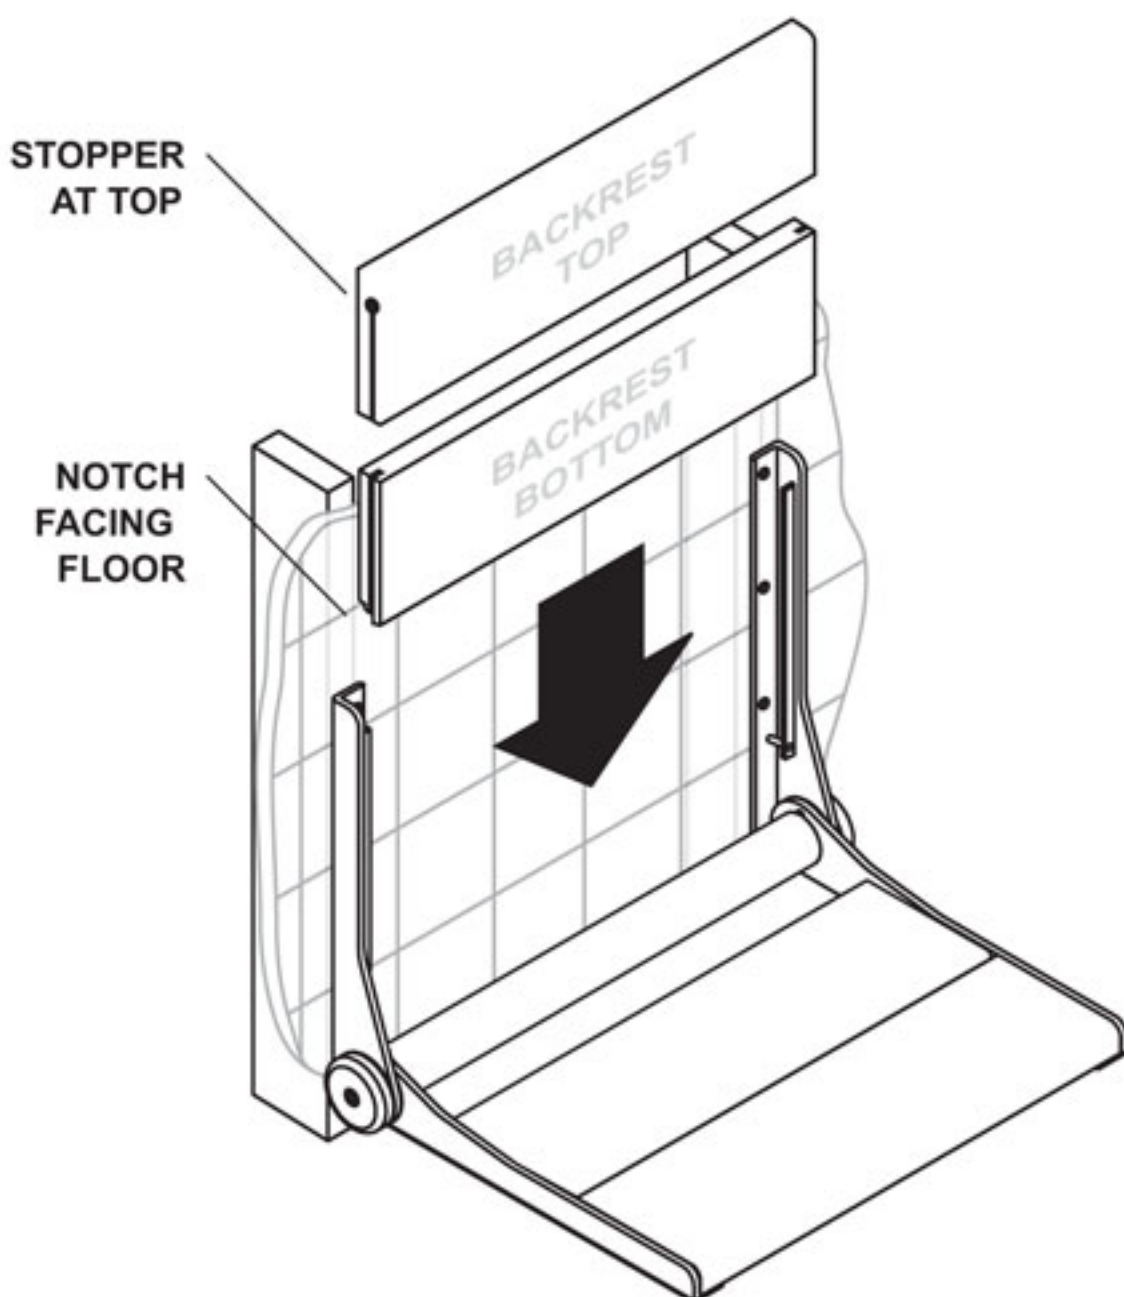

Figure 1.
A1. Identify the horizontal and vertical location of the SerenaSeat™. Specifically, identify the location of the top hole on one side of the wall bracket as shown in of **Figure 1 (a)**.
A5. Once attached, use level as shown in **Figure 1 (b)** to ensure seat is straight. Identify the location of the top hole on the opposite wall bracket. **IMPORTANT:** Ensure distance between the wall brackets allows for easy sliding of the back rest panels (do not cause brackets to bend inwards).
1. Choose optimal mounting location of seat including height (*H) and side to side location (L) as shown in **Figure 1**. **NOTE:** If accessing the bathroom wall from the backside, transfer the measurements for the support rail location to the backside wall as shown in **Figure 1b**. Mark the height and location on the wall for future reference.
2. Find wall support studs & cut hole in wall board to expose wall studs as shown in **Figure 1**. Suggested hole size is height (A) of 18-24" (48-61cm) and width (B) corresponding to wall stud spacing. Expose half width of each stud to facilitate re-installation of wall board patch. **IMPORTANT: Avoid any utilities located in wall!**